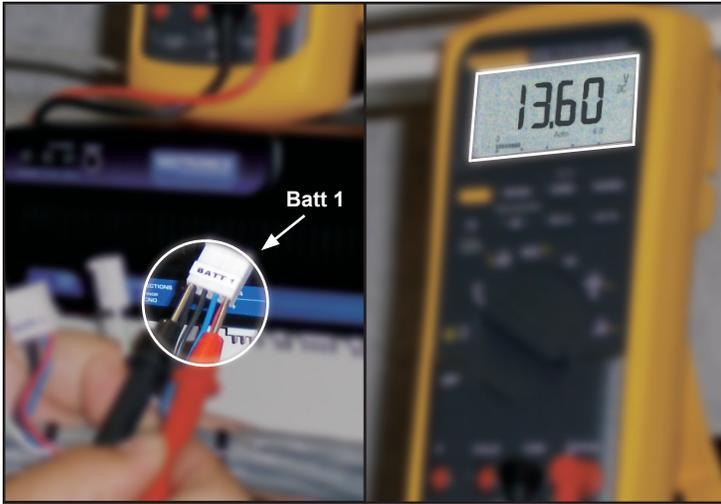

Figure 3
1. Insert the positive voltmeter lead into the red wire on the Battery 1 connector. (Figure 3)
3. Measure the voltage. When properly connected, the meter should read a nominal +12 Volts. (Figure 3)